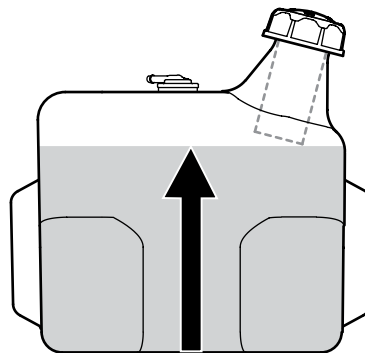

Figure 2-10
2. Fill the fuel tank with gasoline. Use only clean, fresh (no more than 30 days old), unleaded gasoline. Fill tank to no more than $\frac{1}{2}$ " below bottom of filler neck to allow space for fuel expansion. See Figure 2-10.
Important: Do not overfill the tank. Fill tank to no more than $\frac{1}{2}$ " below bottom of filler neck to allow space for fuel expansion. See Figure 2-10.